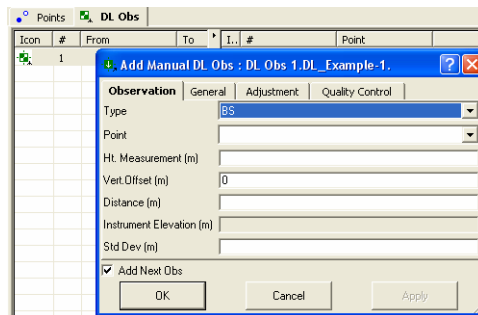

Figure 5-101. Add Manual DL Obs Dialog Box
- After clicking OK in the *Add Manual DL Run* dialog box, the *DL Obs* tab and the *Add Manual DL Obs* dialog box will display (Figure 5-101)